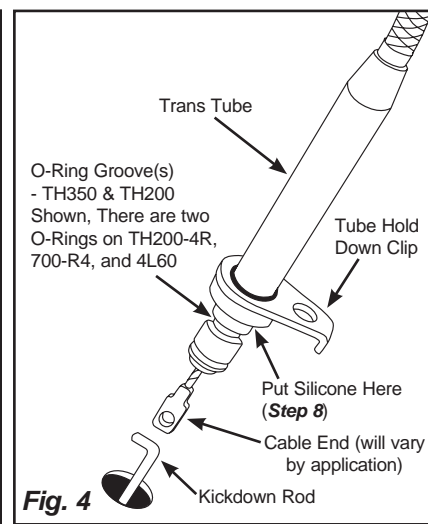

Fig. 4
Step 2: From the engine end of the kickdown cable housing, install the tube hold down clip onto the cable housing with the lip pointed downwards, and slide it down to the trans tube at the end of the cable housing. Temporarily install the cable housing into the transmission without the o-ring(s) and inner wire. Loosely install the bolt for the tube hold down clip, to keep the cable housing from accidentally coming out of the transmission. **Fig. 4**